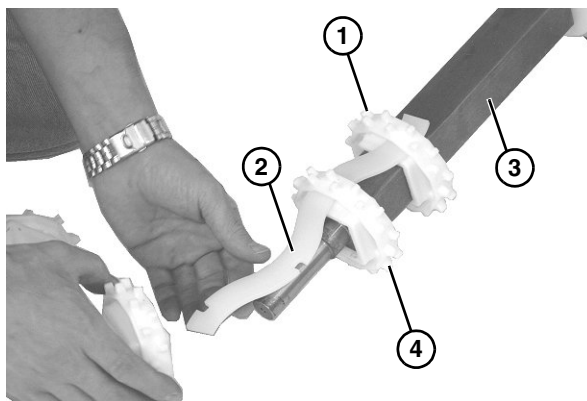

Figure 38
12. To assemble sprockets onto drive spindle, slide one sprocket (**Figure 38, item 1**) onto alignment bar (**Figure 38, item 2**) and slide assembly onto drive spindle (**Figure 38, item 3**).
13. Install second sprocket (**Figure 38, item 4**) and subsequent sprockets one by one, while sliding entire assembly onto alignment bar and spindle.